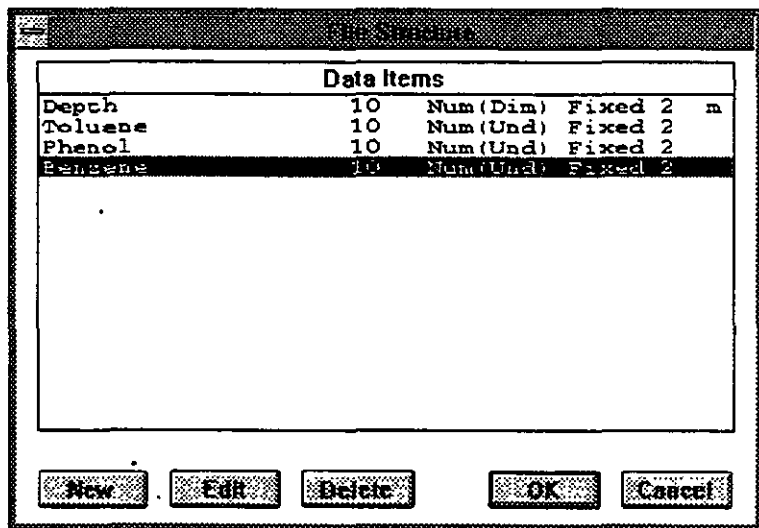

Figure 19-16
6. Repeat the same for **Benzene**. The list should now contain 4 parameters as shown in Figure 19-16.